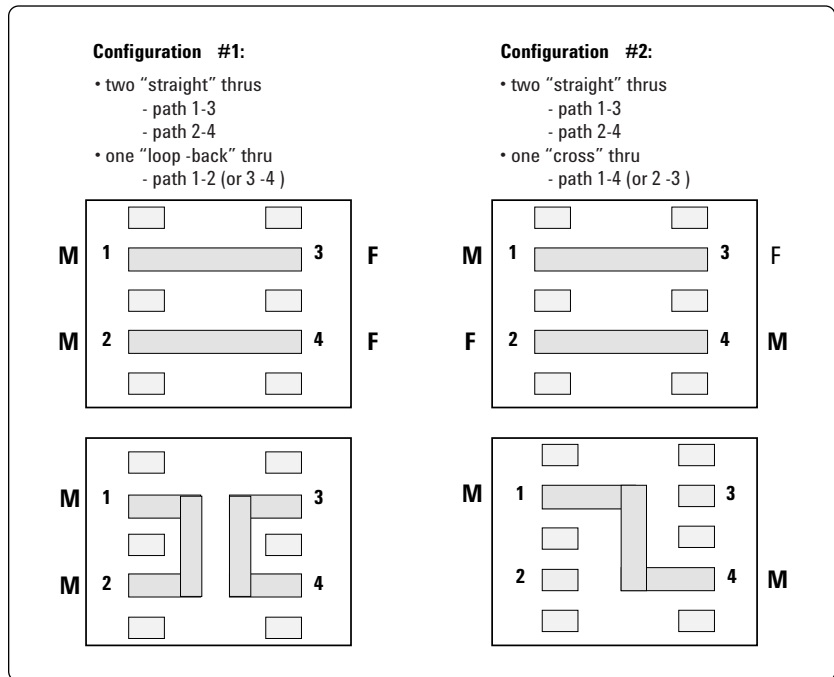

Figure 3. Two possible 3-thru configurations.
Figure 3 shows two possible 3-thru configurations of a GSGSG probe. Configuration #1 shows the third thru as a “loop-back,” as such, we label ports 1 and 2 as M (for male), and ports 3 and 4 as F (for female). This configuration allows us to create two thru standards: one with male-female connectors (such as paths 1-3 and 2-4) and the other with male-male connectors (such as paths 1-2 and 3-4). By having two thru standards, we can then define each one with a different length.
Regardless of which configuration is chosen from Figure 3, the same steps are used in creating a calibration kit. Extra attention must be paid when setting up the thru standards so that the correct value is entered for the correct path. To create a calibration kit, simply follow the numbers boxed in each of the figures shown below (Figure 4 through 10).
16. This is the result you can expect to see after following figures 6 and 7. As shown here, we have designated the probes on the left with male connectors. This is the case because we are following Configuration #1 as outlined in Figure 3. As such, we will designate the probes on the right with female connectors.
7. Select *Connectors* to match those as outlined in Configuration #1 of Figure 3:
12. Select the three thru paths for a full 4-port calibration. Using Configuration #1 of Figure 3, let’s use paths **1-2**, **1-3**, and **2-4**.